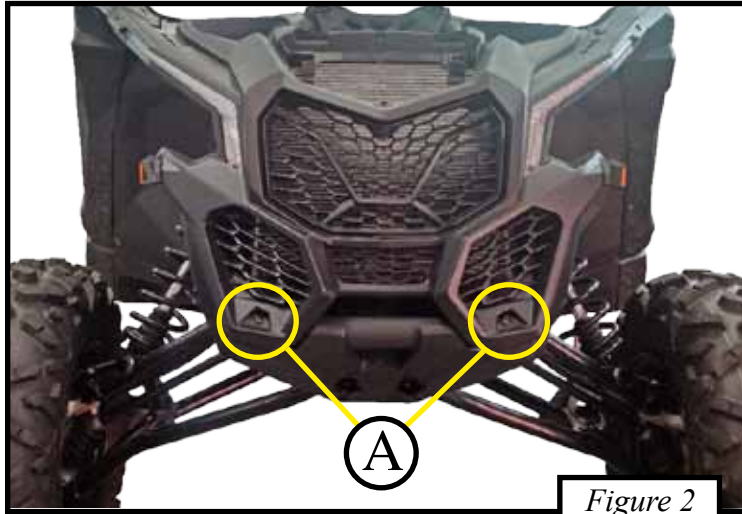

Figure 2
1. Remove two bolts (A) as shown in Figure 2.